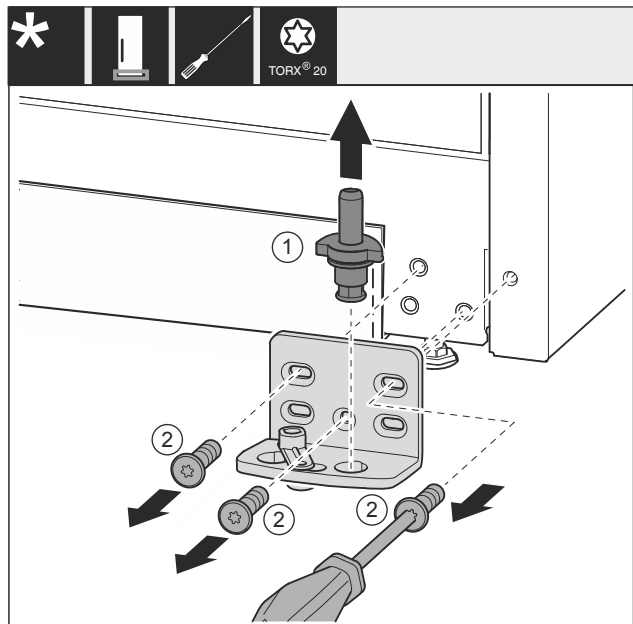

Fig. 33 *
- Pull the bearing bolt Fig. 33 (1) out upwards completely.*
- Use screwdriver to unscrew the screws Fig. 33 (2) and remove the swap bearing block.*